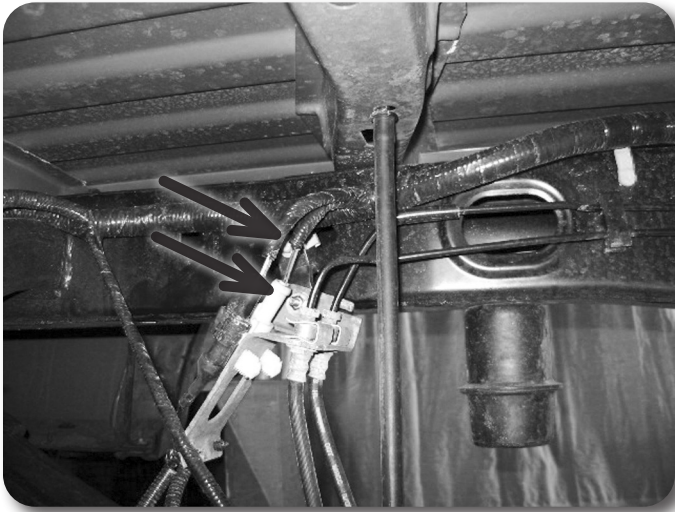

Figure 9
13. Install the provided brake line relocation bracket to the driver's side frame rail with the factory brake line bracket bolt **Figure 9**. Torque to 15 ft-lbs.